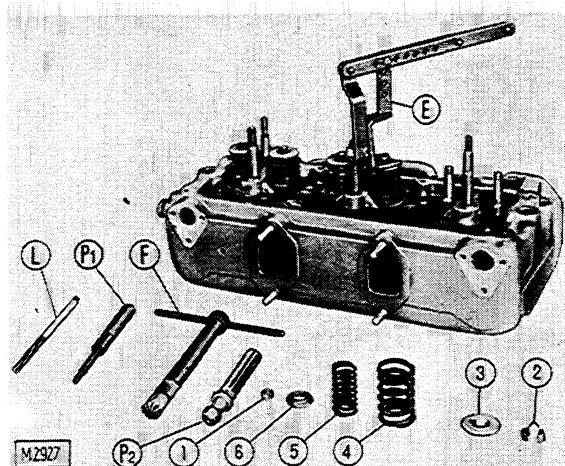

Fig. 20 - Removing or installing valves.
- Compress springs using tool (E, fig. 20) and remove valve spring retainer locks (2).
When replacing valve guides, use installer/remover **75291496** (P1, fig. 20), together with a suitable press.
- After they are pressed into the cylinder heads, valve guides should be reamed using reamer **75291499** (L, fig. 20).